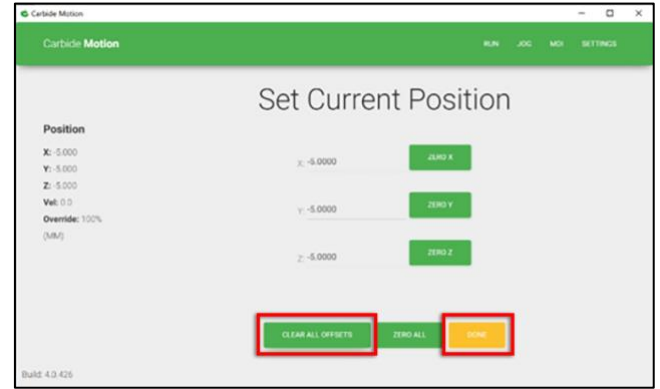

Figure 17
3. On the Set Current Position screen, click the **Clear All Offsets** button. Then, click **DONE**. See *Figure 17*.